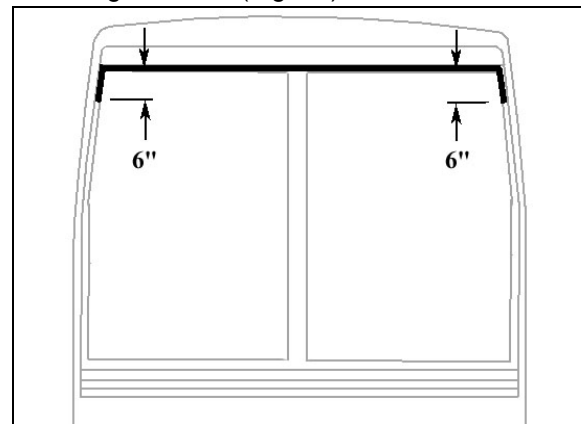

FIGURE 51: APPLICATION OF SIKA 221 BLACK
- At the top of windshield, clean surface between fiberglass and rubber extrusion using Sika 205 (Fig. 51).